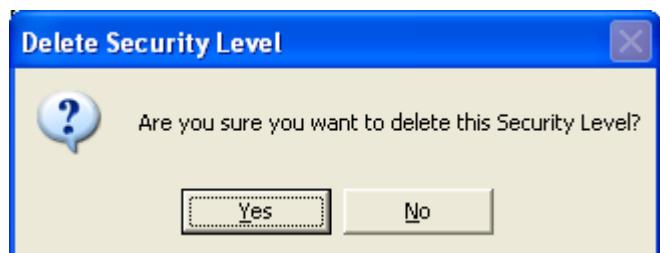

Figure 238
5. This will display the 'Delete Security Level' prompt (see Figure 238).